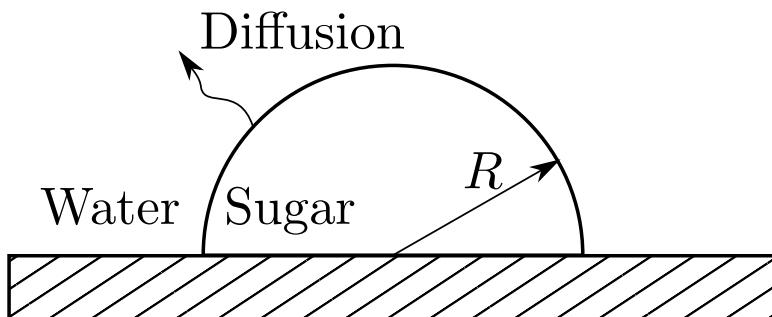

Figure 23: The lump of dissolving sugar.
- b) A hemispherical lump of sugar, initially of radius  $R = 0.005$  m, is dropped into a cup of tea, quickly coming to rest on the bottom of the cup as shown in Fig. 23. The sugar lump then slowly dissolves into the tea. The diffusion coefficient of sugar in tea is  $4 \times 10^{-10}$  m2 s-1. The saturation mole fraction of sugar in tea is 0.1 and the total molar density of the system is  $c = 55 \times 10^3$  mol m-3.